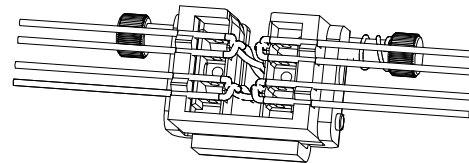

Fig.11
1. Individual wires must be completely straightened inside the Lacing head.(Fig. 11)